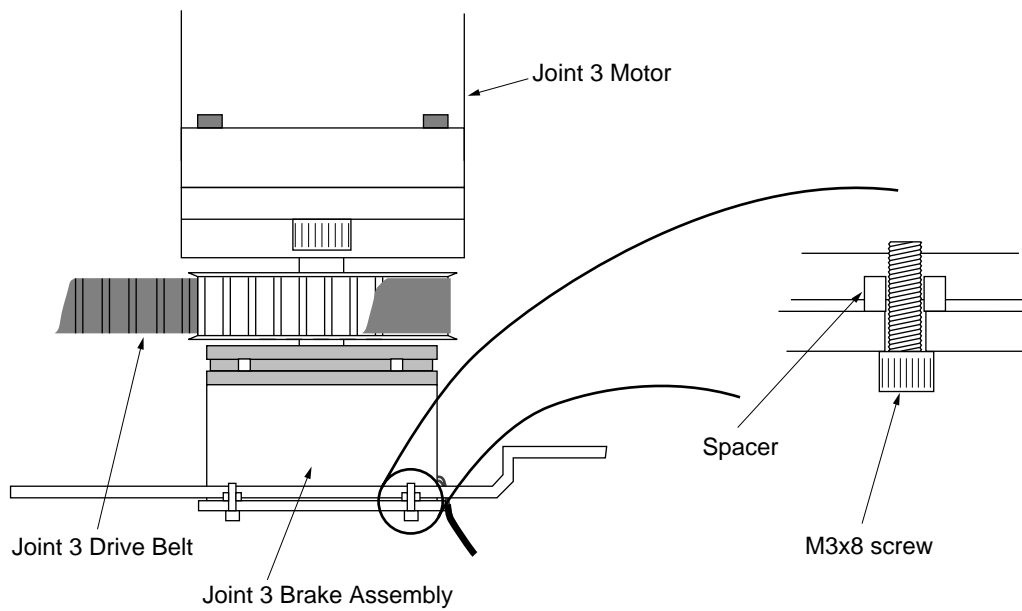

Figure 5-4. Close-up View of Joint 3 Brake Assembly
**NOTE:** Be careful not to lose the four spacers that are between the brake assembly and the outer link assembly. See Figure 5-4. These spacers are necessary to ensure that the brake is aligned properly with the Joint 3 drive pulley.
6. Re-install the Joint 3 brake assembly, making sure the spacers are in place (see Figure 5-4) and that the brake assembly fits correctly. You may have to move Joint 3 up or down slightly to ensure the brake assembly meshes correctly with the mechanism on Joint 3. Secure the brake assembly with the 4 screws.